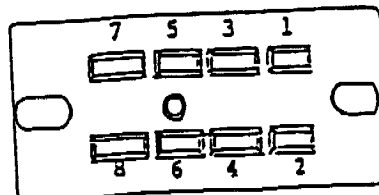

Figure 3
2. Remove the terminal from location 3 of the changer socket (see figure 3 above) using the removal instructions on page 2.
4. Insert wire #3 of the conversion harness in changer socket location 3. (See figure 3, page B1.)
5. Insert wire #4 of the conversion harness in changer socket location 4. (See figure 3, page B1.)
6. Discard wire numbers 7 and 8 of the conversion harness. They will not be used in a dual (2) price installation.